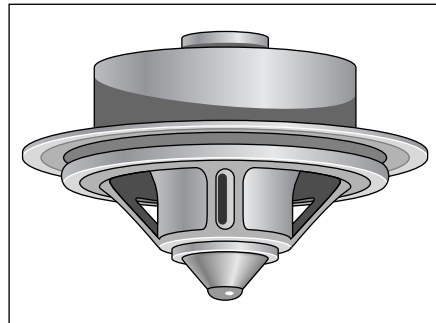

Figure 12-12: Thermostats are replaced spring side down.
7. **Drop in the new thermostat, making sure to place the spring side *down* (see Figure 12-12); then replace the bolts.**